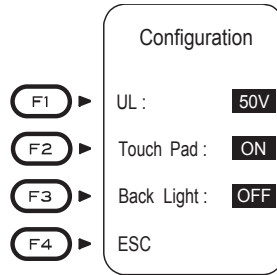

Fig. 10
2. Then, Configuration Screen (Fig.10) is displayed.